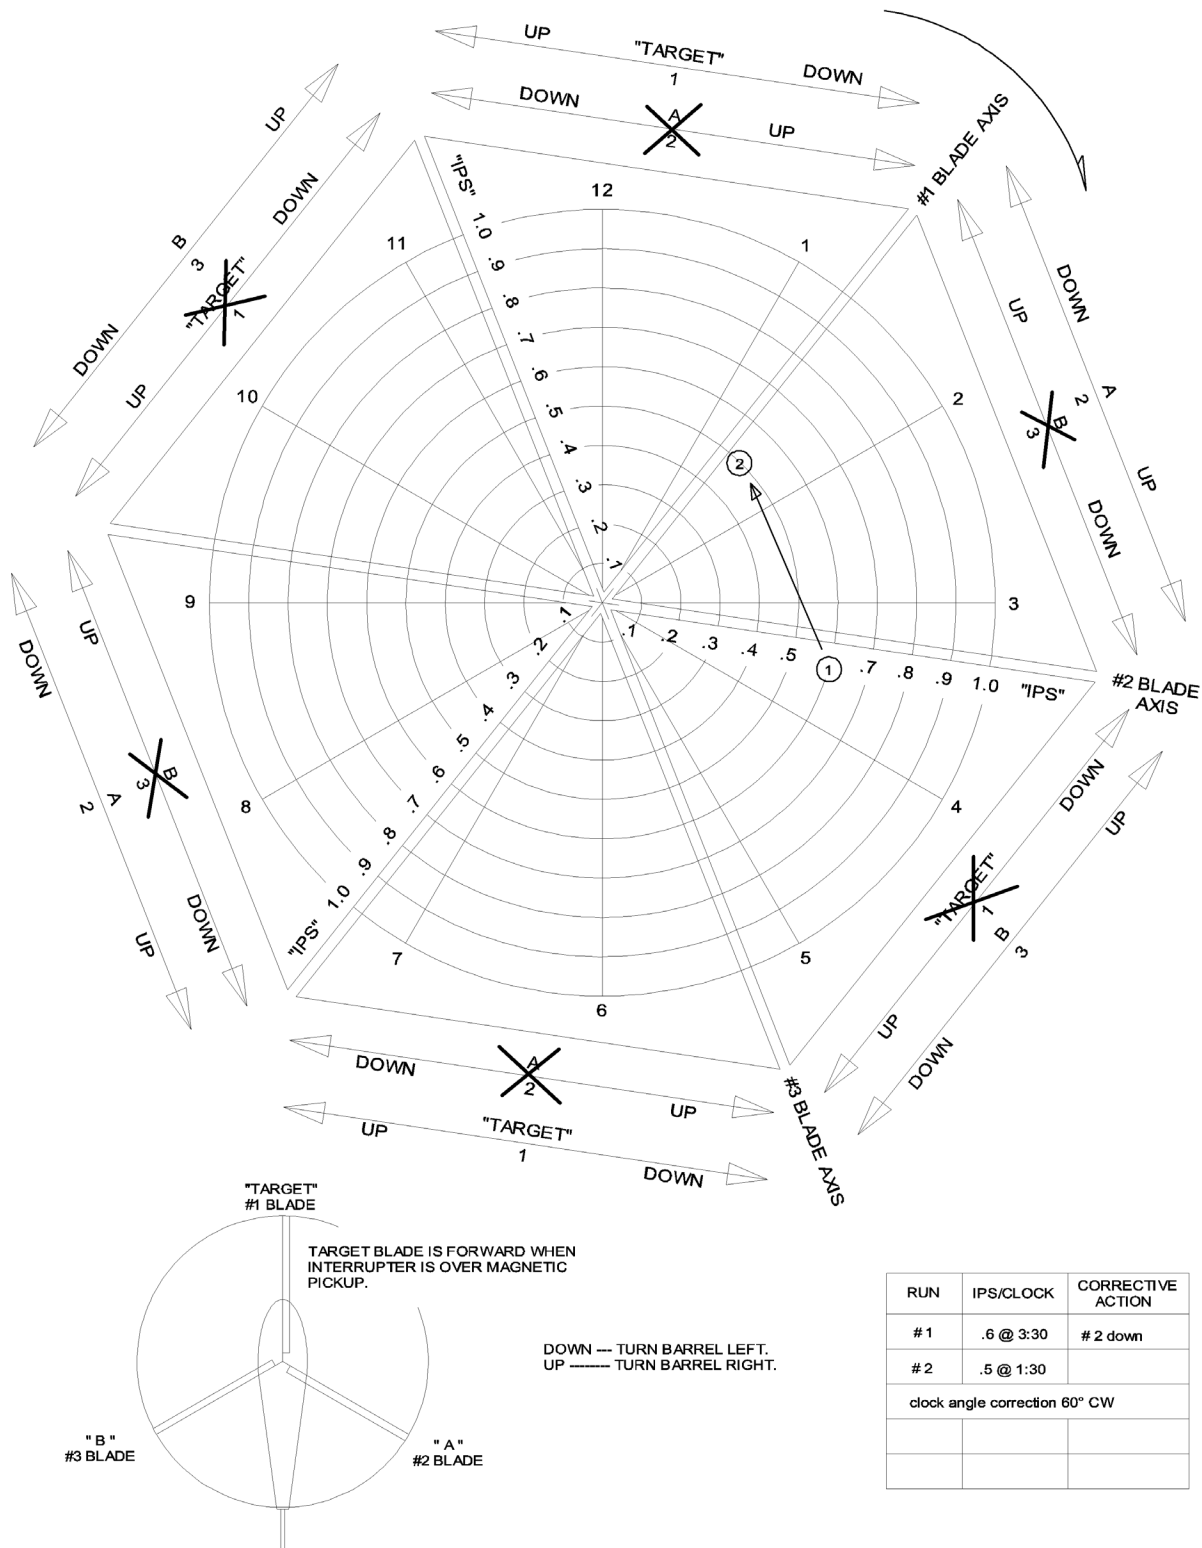

Figure 12-6.2. Main Rotor Clock Angle Correction Example
- (3) Observation of run #1 and run #2 plots indicates that the tracking response is following the #3 blade axis line. Therefore, the blade correction move lines must be shifted clockwise one flat (60°) (Figure 12-6.2). This is the Clock Angle Correction.